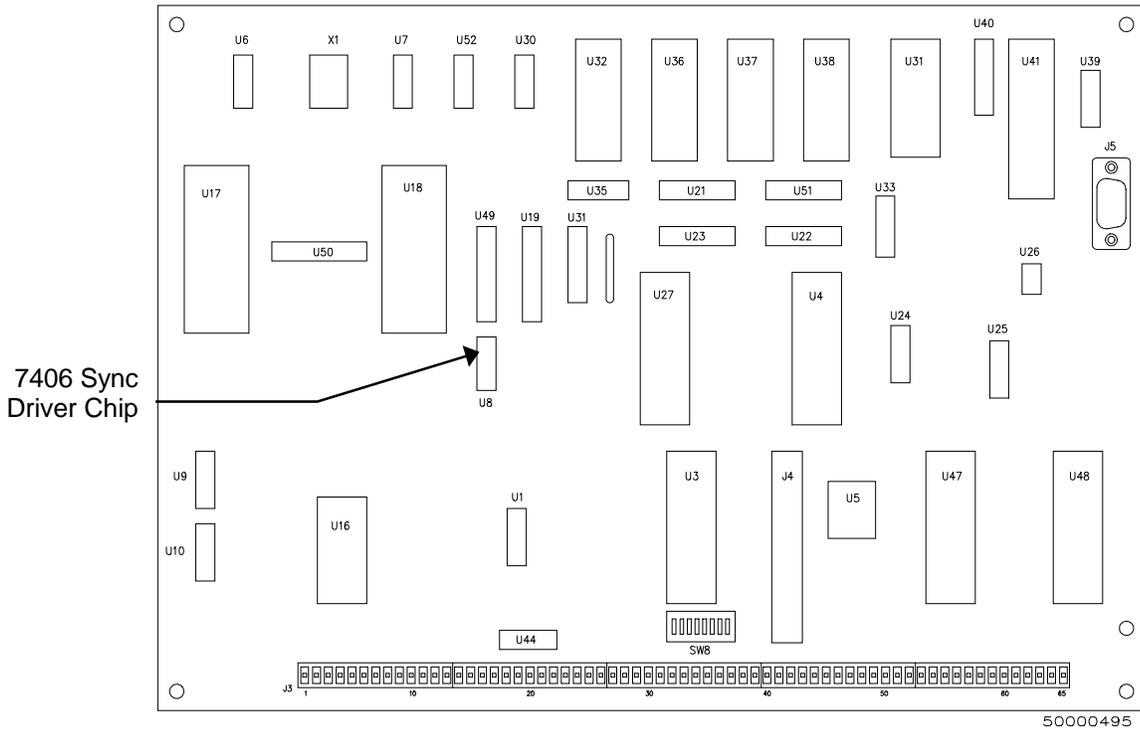

Figure 2 - Video Sync Driver Chip Location for the CRT-260
6. Remove the existing video sync driver chip by carefully inserting a screwdriver underneath it and gently prying it up. Install the new chip in its place. Chip locations can be seen in Figures 2 and 4.